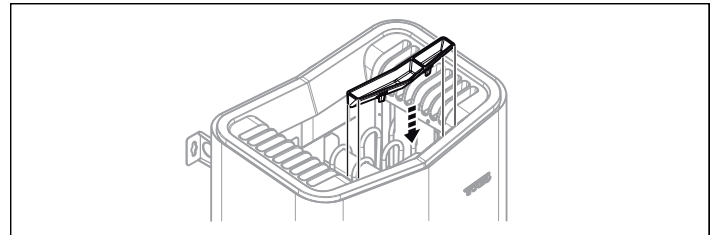

Figure 12: Fitting the fragrance holder/air humidifier
10. Fit herb bowl/air humidifier (see Fig. 12).